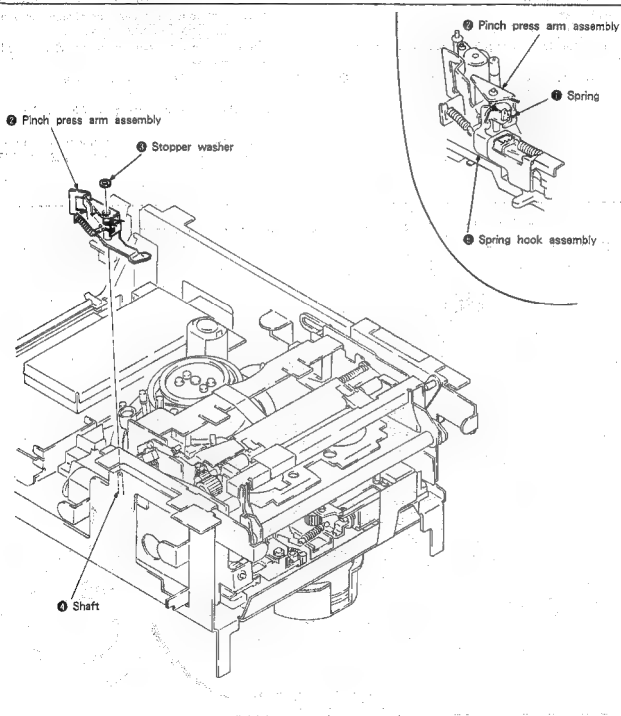

Fig. 7-8.
Removal (See Fig. 7-8.)
2. Mounting (See Fig. 7-8.)
- 2) Change the spring position as described in 7-3-3, 1. Removal, 1). (See Fig. 7-8.)
- 3) Remove spring ①. (Note its hooking position.)
- 4) Remove screw ② and remove the spring hook assembly ③.
- 6) Remove the tension regulator band assembly claw ④.
- 7) Remove the tension regulator arm assembly ⑤.